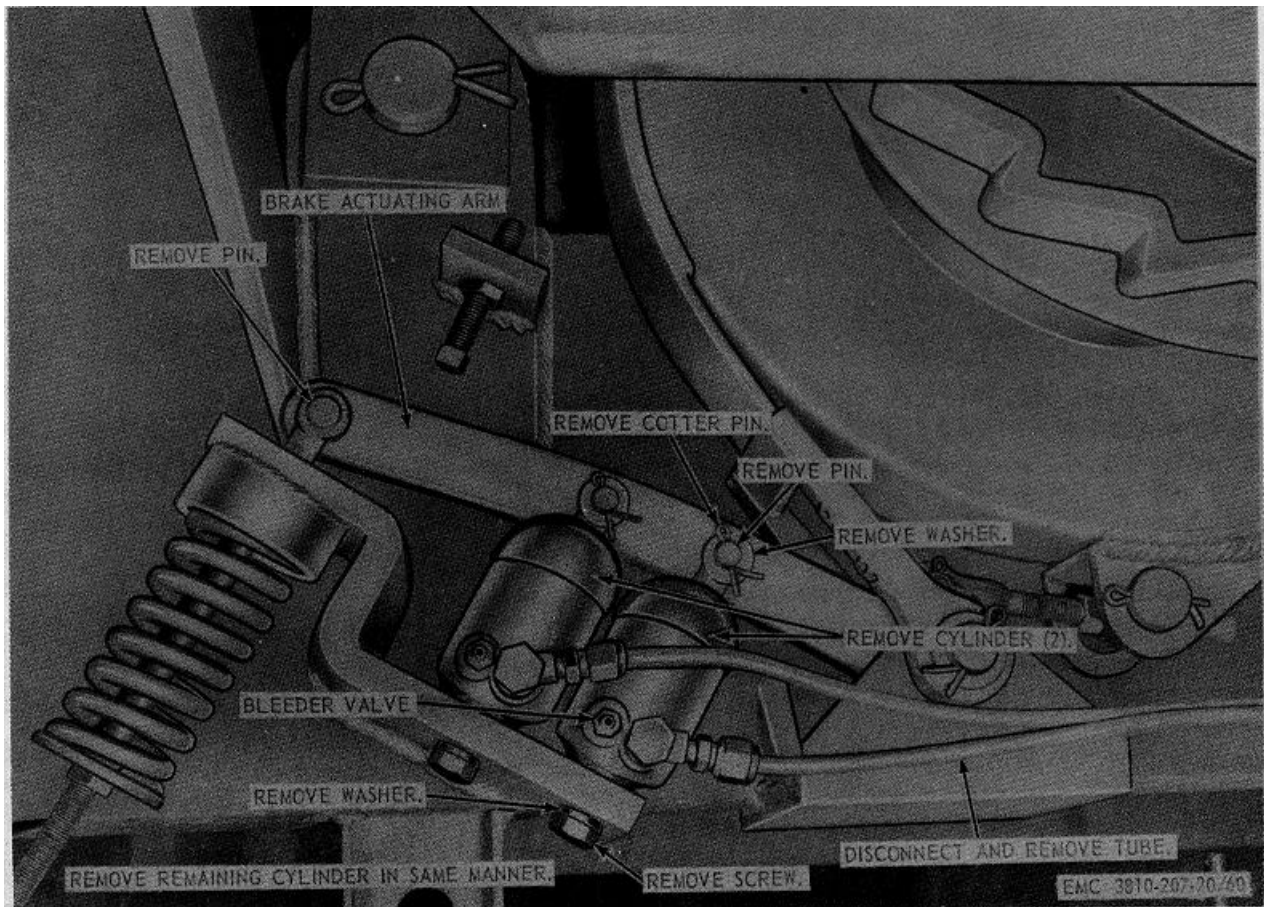

Figure 60. Boom hoist brake hydraulic cylinder, removal and installation.
- (2) Remove the boom hoist brake hydraulic cylinder as instructed on figure 60.
- (1) Install the boom hoist brake hydraulic cylinder as illustrated on figure 60.
- (2) Add hydraulic fluid to master cylinder for boom hoist brake (LO 5-3810-207-20).
- (3) Bleed brake cylinder and lines (par. 133).